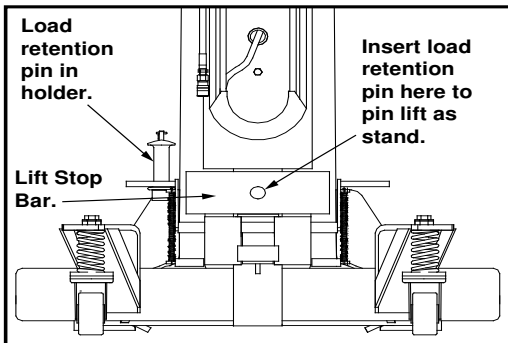

Fig. 9: Load retention pin
3. On both lifts, remove the load retention pin from its holder and insert it through the oblong hole in the lift stop bar and fully into the corresponding hole in the downstop lug (see Fig. 9) to pin the lifts as stands.